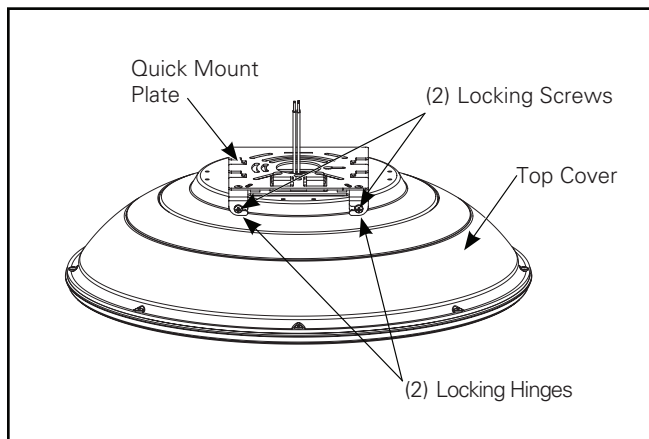

Figure 1.
1. Loosen (Do not remove) the two locking screws (Figure 1). Pivot both locking hinges out to the left/right sides until they stop.